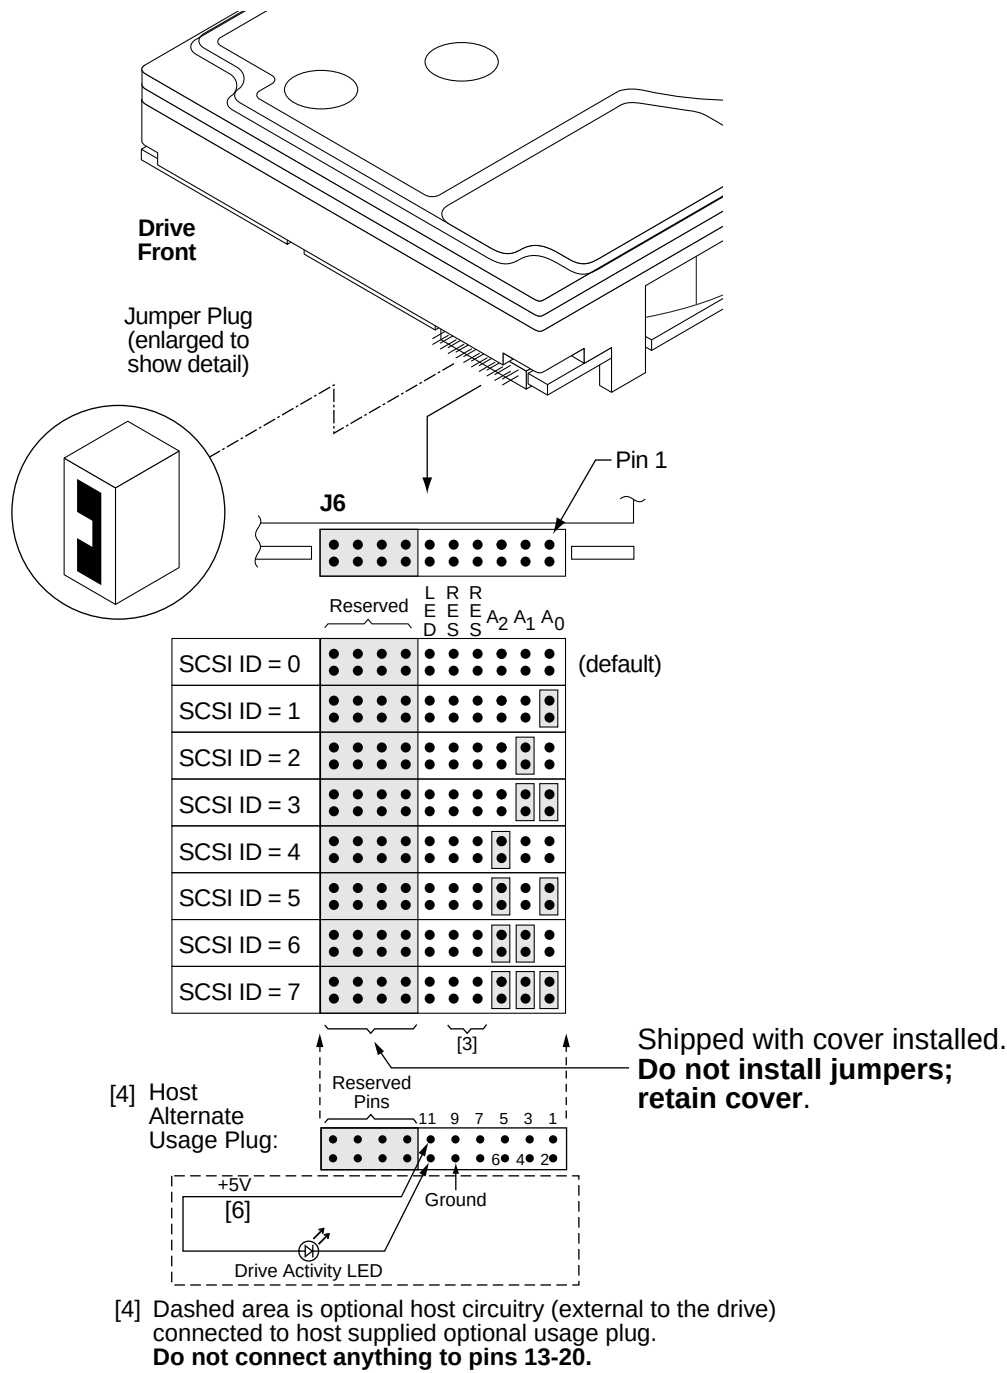
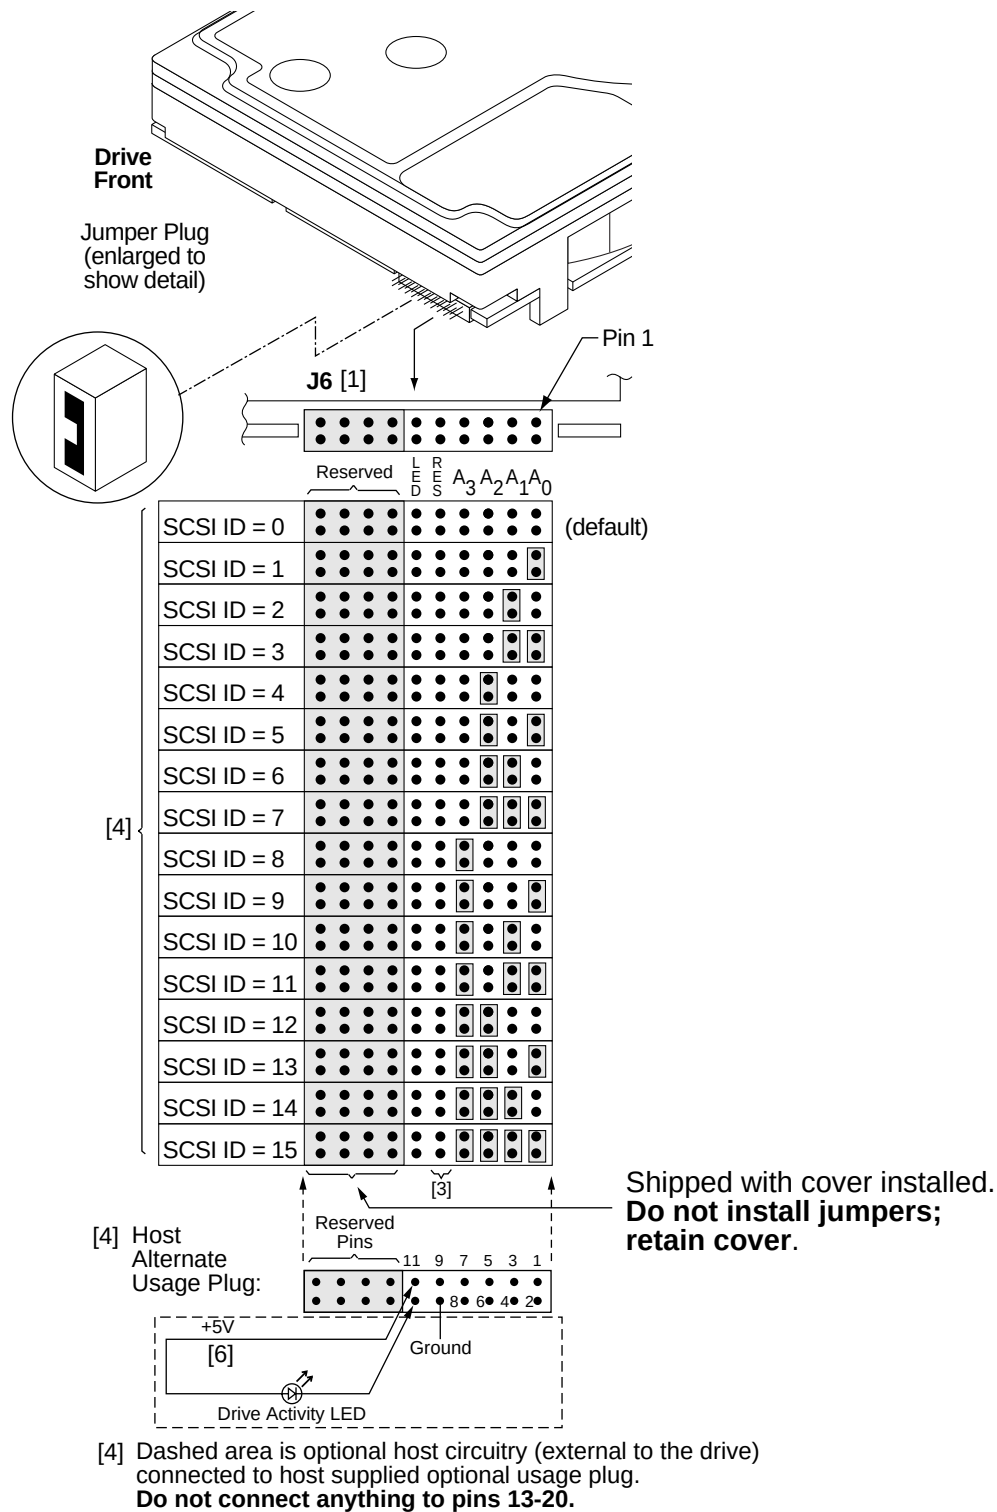
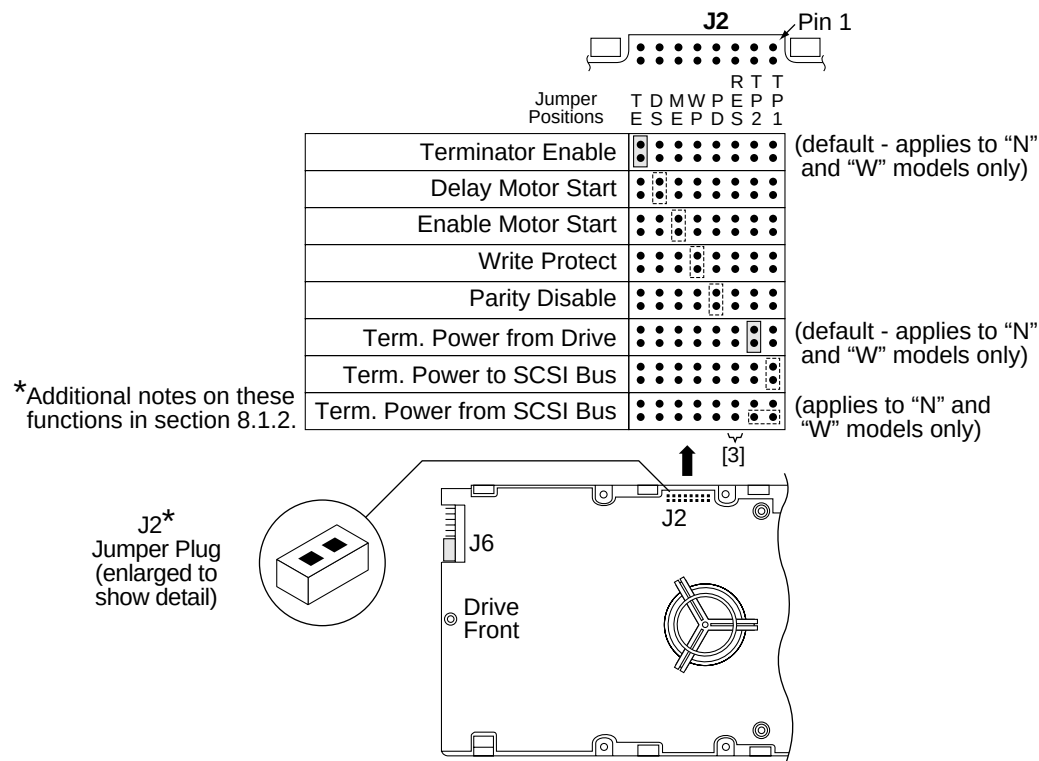

Figure 7a. Barracuda 9LP family drive ID select header for models “N”
Figure 7b. Barracuda 9LP family drive ID select for models “W,” “WC,” “WD,” “LW,” and “LC”
Figure 7d. Barracuda 9LP family drive option select header for models "N," "W," and "WD"
For option jumper locations and definitions refer to Figures 7a, 7b, 7c, 7d, 7e, and 7f. Drive default mode parameters are not normally needed for installation. Refer to Section 9.3.2 for default mode parameters if they are needed.
Figures 7a through 7c show views of the drive ID select jumper connectors. Figure 7d shows the option select jumper connector for all models. Figure 7b shows a rear view of model drives for the purpose of showing J1-auxiliary of the drive. Both J1-auxiliary and J6 have pins for selecting drive ID and for connecting the remote LED cable. Only one or the other should be used, although using both at the same time would not damage the drive. The notes following the figures describe the functions of the various jumper positions on the connectors J2, J1-Auxiliary and J6. Suggested part number for the jumpers used on J2 is 3M part number 956562-30 (Seagate part number 89501860). A bag with the two jumper plug types is shipped with the standard OEM drives.
Notes for Figures 7a through 7f are in Section 8.1.1.
8.1.1 Notes for Figures 7a, 7b, 7c, 7d, 7e, and 7f.
*See Figure 7d for pins used for Termpower.